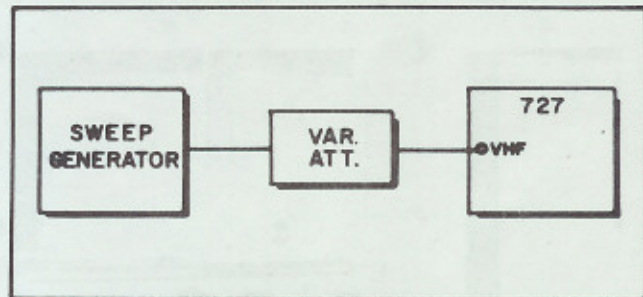

Fig. 5-7. Setup for Discriminator Alignment
1. Connect equipment as shown in Fig. 5-7.